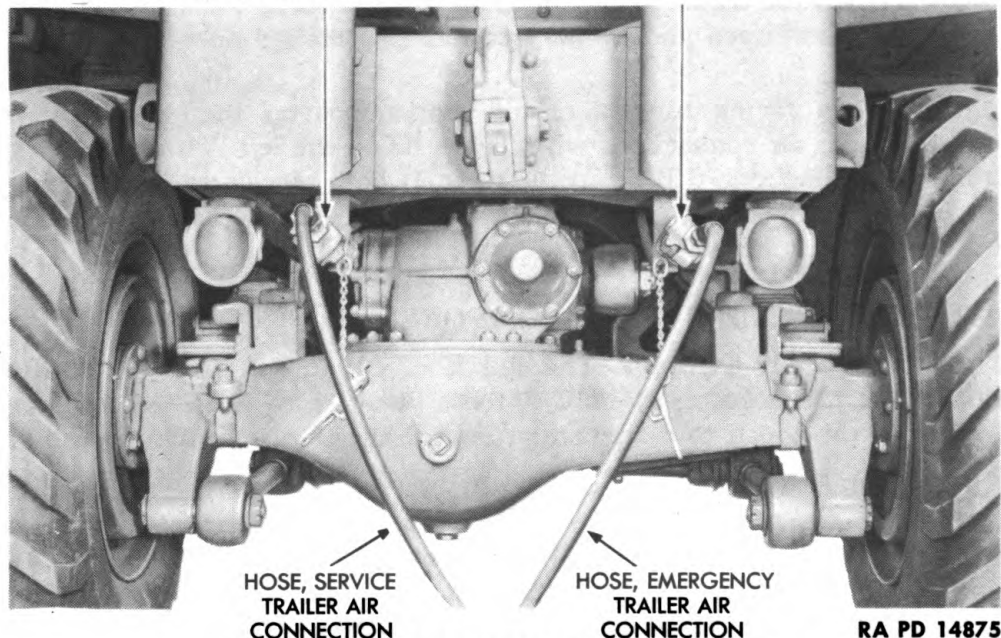

Figure 28—Rear Trailer Air Connections
(1) The trailer air connections at the front or rear of the wrecker can be connected (with flexible hose) to trailer air connections on another unit. The brakes on all units are applied by the operation of the brake pedal.
(2) The emergency trailer air connection at the front of the wrecker has a shut-off cock but the service trailer air connection does not. Both the service and trailer air connections on the rear of the wrecker have shut-off cocks.
(3) When the trailer air connections are not being used, the shut-off cocks must be closed and dummy couplings installed on the trailer air connections.
(4) When facing the trailer air connections on the wrecker, the service trailer air connections will *always* be on the left. The emergency trailer air connection will be on the right. If both service and emergency trailer air connections are used, the flexible hose (connecting the wrecker to the other vehicle or unit) will cross (fig. 28).